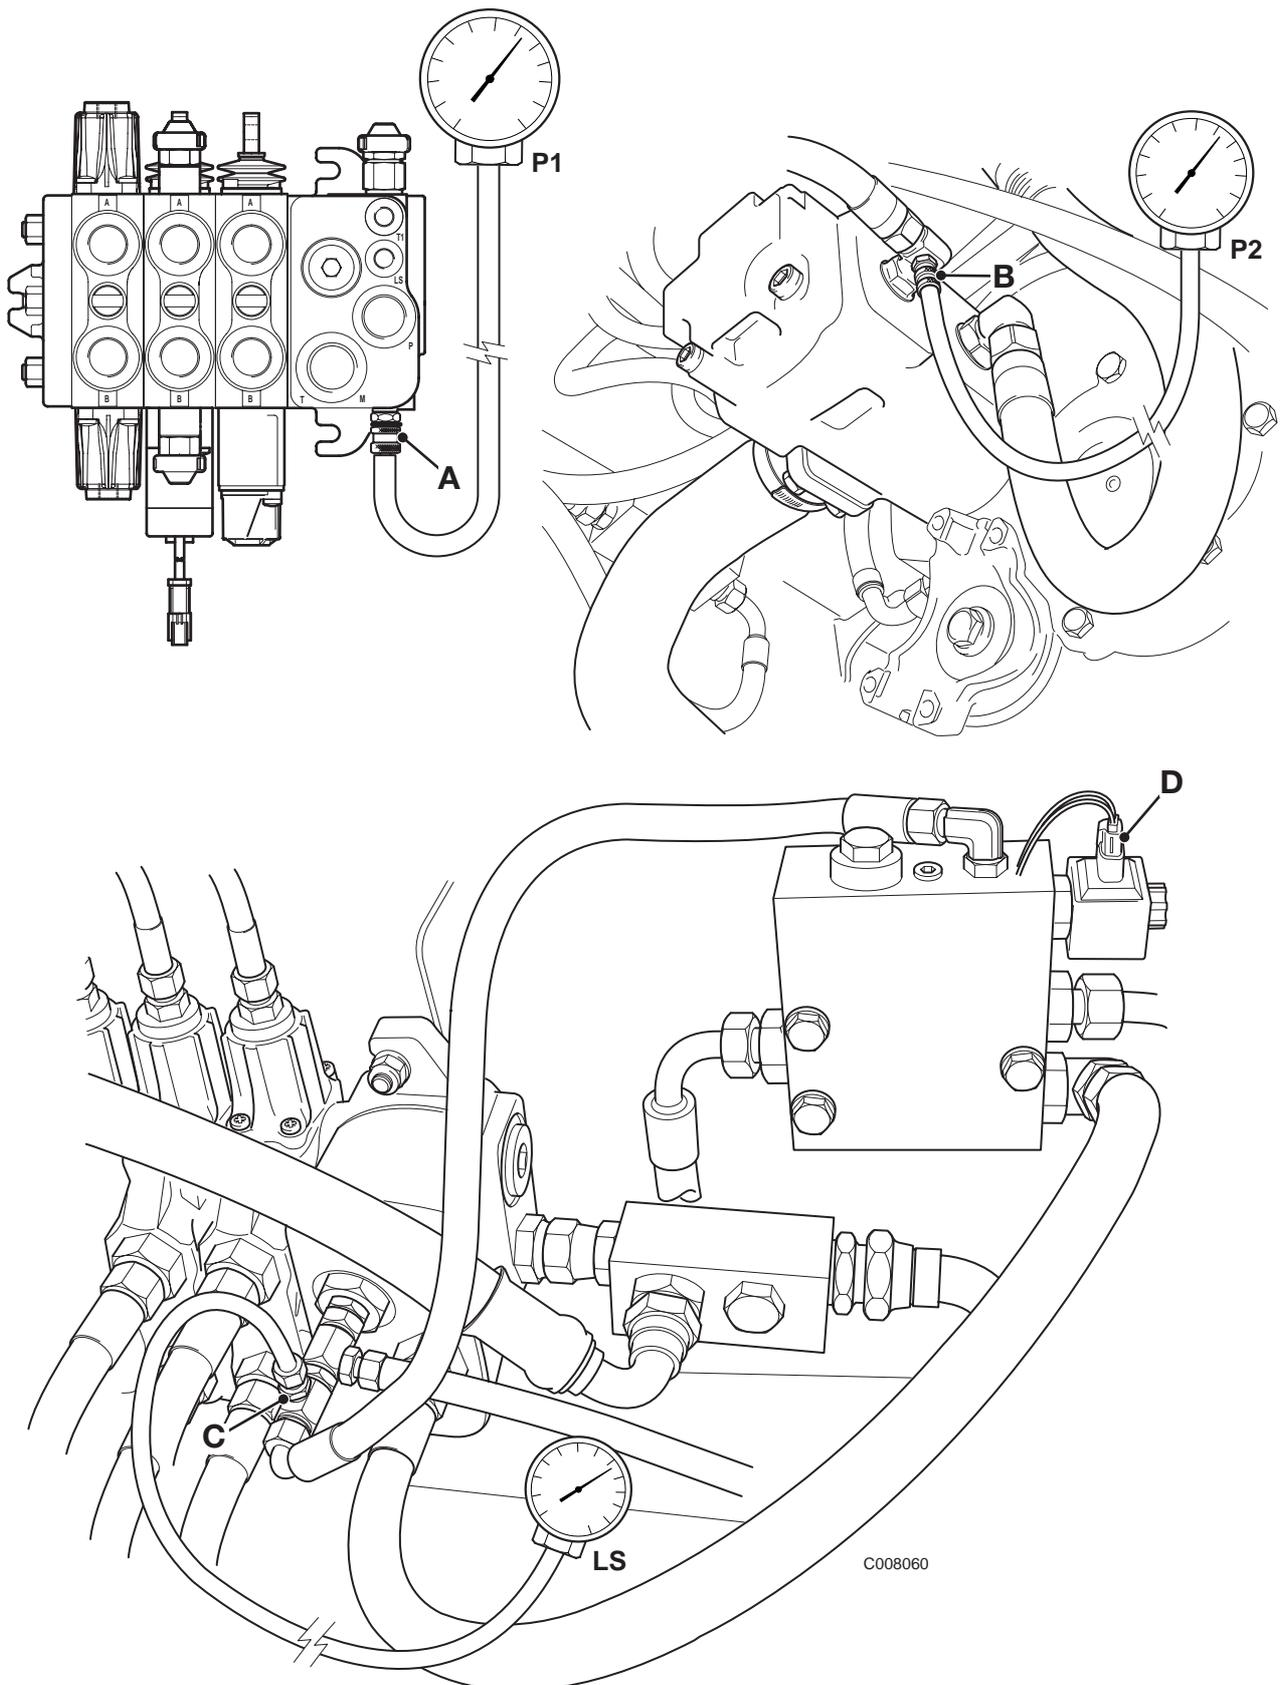

Fig 23. Testing the Inloader Valve
- 1 → Fig 23. \(□ L-165\). Working under the RH side of the machine, connect a 0 - 400 bar (0 - 6000 lbf/in²) pressure gauge to the main system pressure test points **A** (P1 working pressure) at the loader valve, and **B** (P2 working pressure) at the outlet from the pump secondary section as shown.